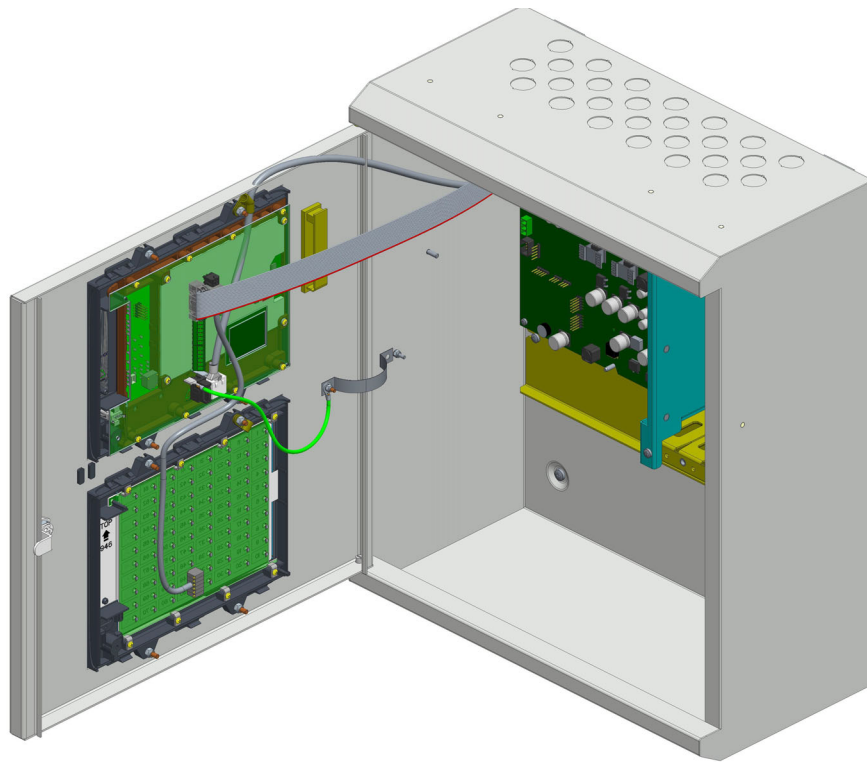

Fig. 1: FC708D
- FC708D - see Figure 1
There is a user control panel (known as the 'GUI', or Graphical User Interface) mounted to the front door – see Section 2.2.4 "Graphical User Interface" on page 12 (the GUI is not shown in Figures 1, 2, and 3 as these show the insides of the open doors).